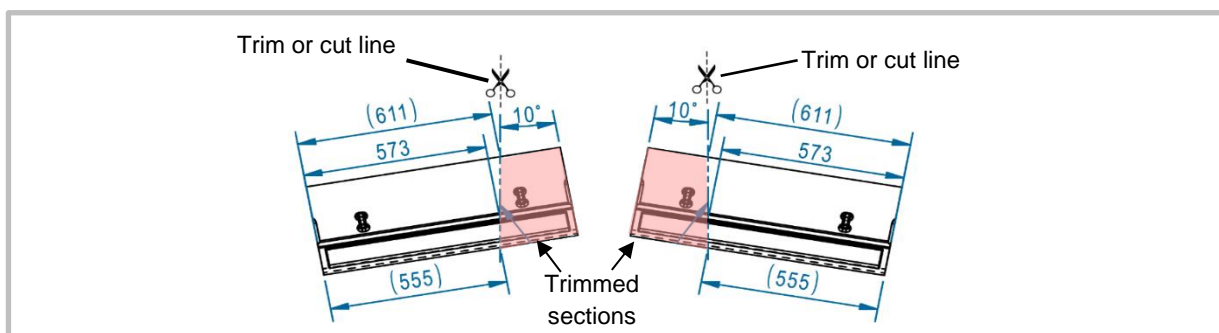

Figure 1 Example of the trim length of Half Arrow products as specified in a lip layout drawing example SL1065.
11.1.1. Mark the workpieces that require trimming with a trim or cut line (see Figure 1) to suit part placement as indicated by either the lip layout drawing or measured from the bucket lip assembly.